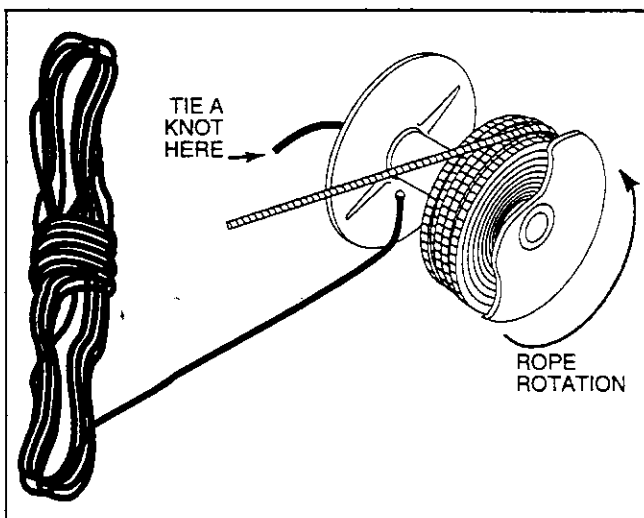

Figure 3 Rope Installation
To install the rope on the drum, refer to Figure 3 and follow the outlined procedures.
4. Keep tension on the rope and feed the rope onto the drum by running the windlass in the "up" position. Proper rope rotation is essential for proper operation. Make sure the rope rotation corresponds to Figure 3. The rope **must** feed from the **top** of the drum.